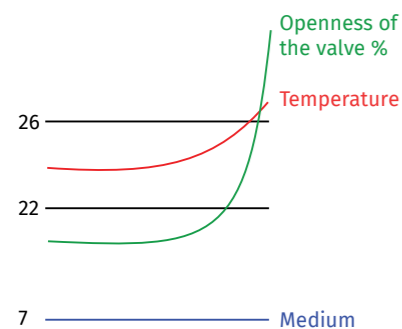

Figure 7. Trend display on the BMS system during valve failure
- b) improper operation of the valve on the heat exchanger line (see Figure 7):